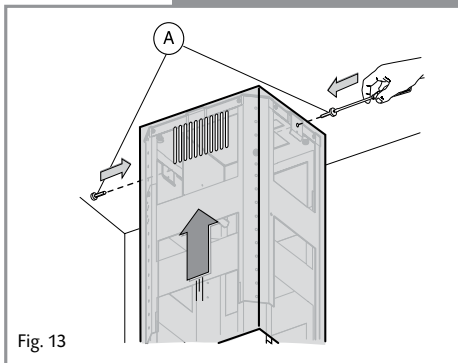
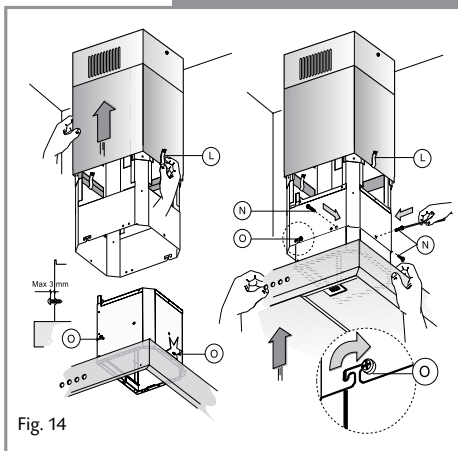

Fig. 13
Fig. 14
11. Mount the upper chimney section onto the frame section and secure in position using the 2 screws (A) as in Fig 13.
12. Carefully slide the lower section over the upper section and tape it in position (L) near the shortest position.
13. Fit 2 screws into the holes on the body of the hood (O), leaving approximately 3mm protruding.
14. Mount the main motor body to the screws (O) through the keyed slots, as shown in Fig 14 and secure the body in position using 4 additional screws (N) and by tightening screws (O) firmly.